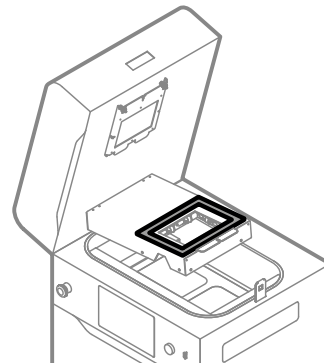

Fig. 13.101 Location of the reflector sealing.
10. The reflector sealing is located in the heating module (fig. 13.101). Check its condition for any damage, deformation or tearing. If needed, replace it.